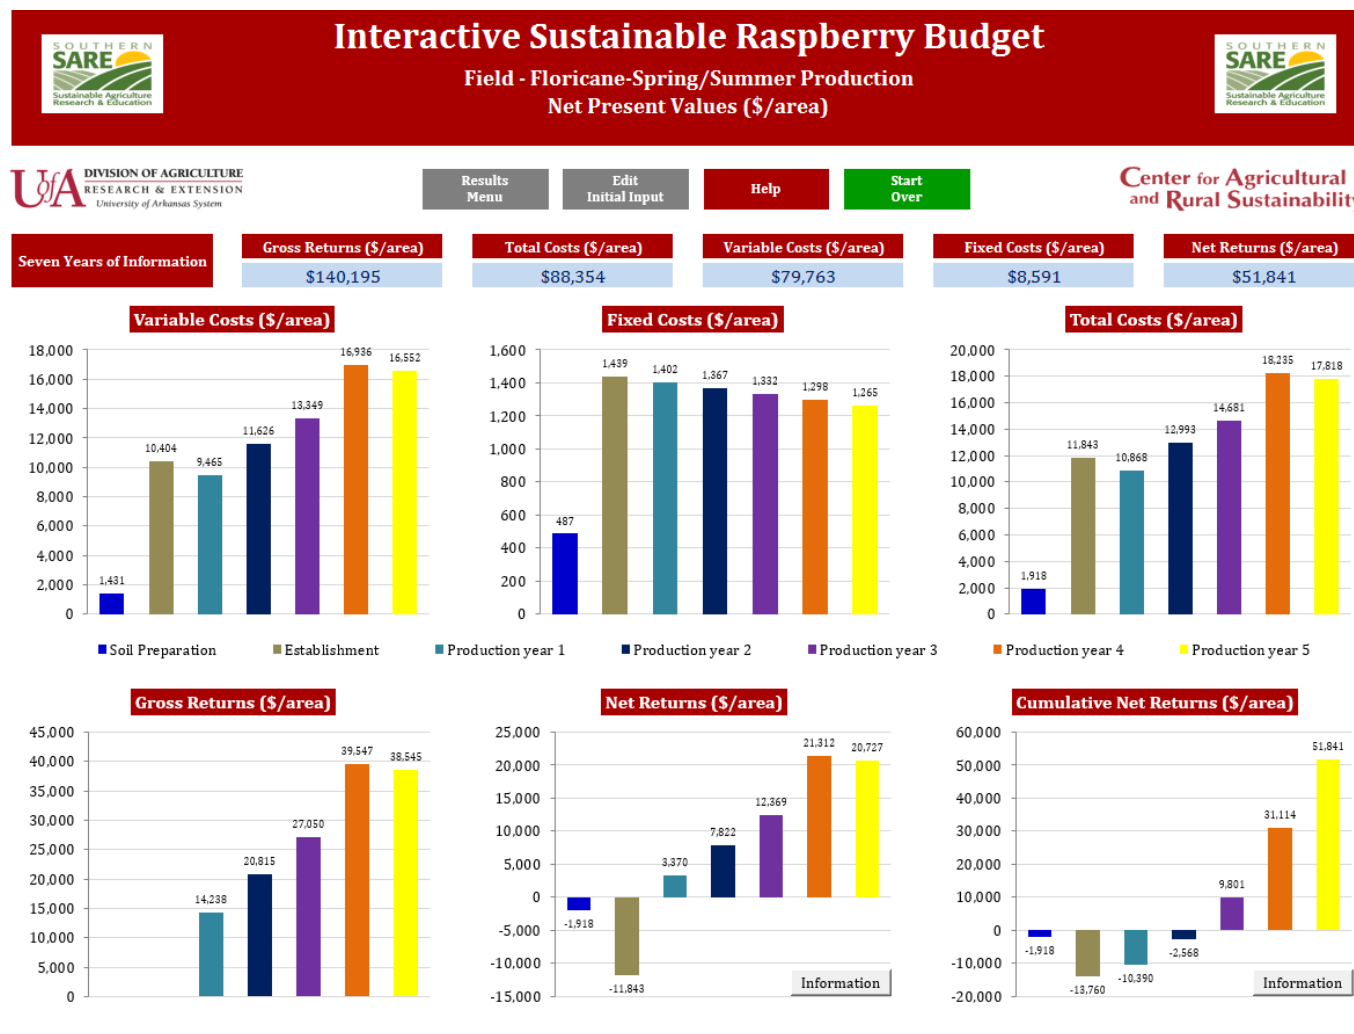

Figure 13: Graphical Summary Results Screen
3.3. Graphical Summary – this option offers a graphical representation of various costs, gross returns, and net returns broken down by production year (Figure 13).